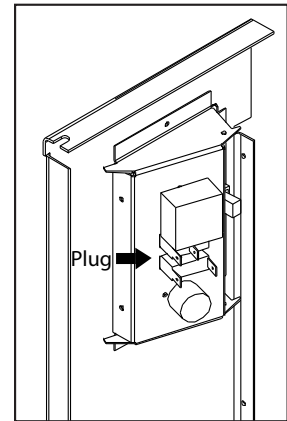

Figure 33: Control Panel Back.
After the surround has been assembled and is ready to be installed on the unit, plug the wiring harness into the control panel (see Figure 33).
4. Plug the wiring harness into the control panel (see Figure 33).